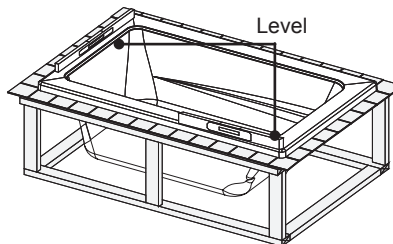

**Fig. 8**
3. Place a piece of scrap lumber on each of the ends of the cutout – this will be used as a temporary support prior to lowering the bathtub fully into the opening (Figure 8).